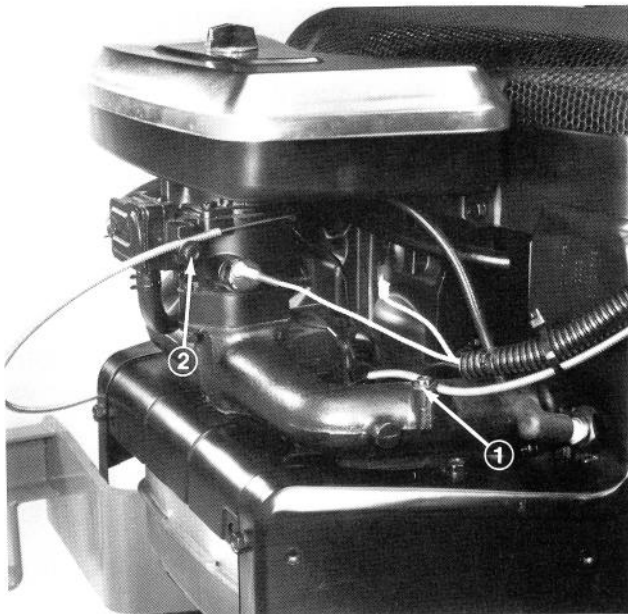

Figure 22
3. To adjust, loosen cable clamping screw securing throttle cable to engine (Fig. 22).
2. To adjust, loosen cable clamping screw securing choke cable to engine (Fig. 22).